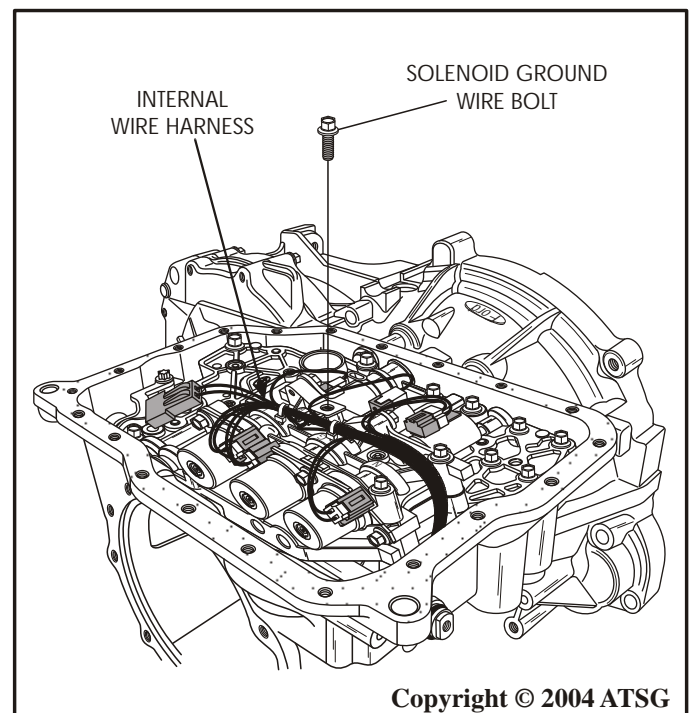

Figure 161
18. Install the solenoid ground wire bolt through the wire terminal, as shown in Figure 161, and torque to 10 N•m (89 in.lb.).